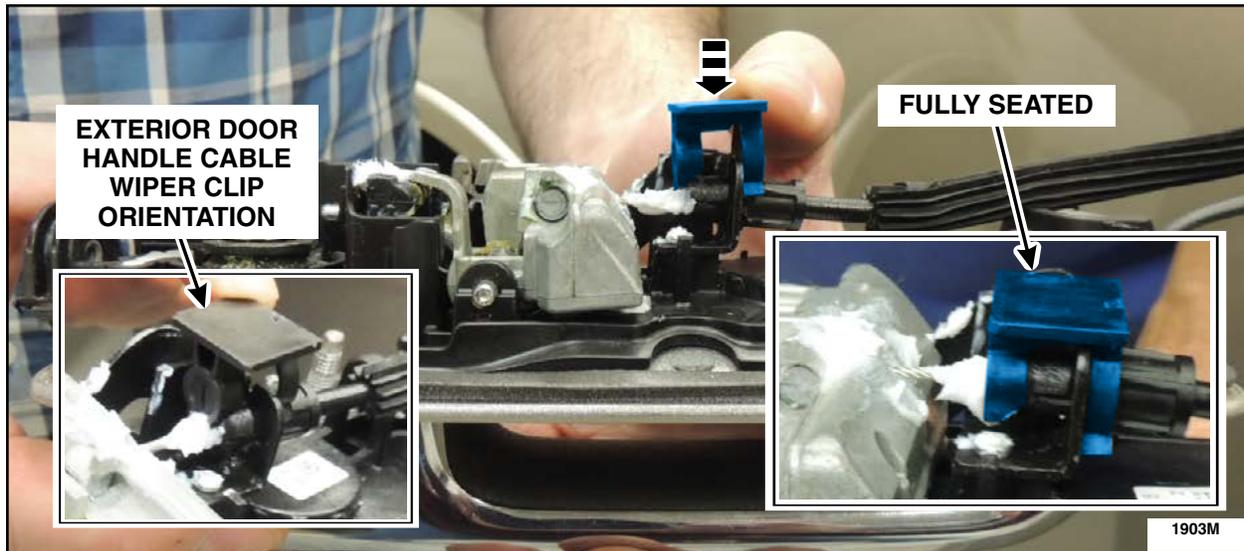

FIGURE 53
22. Install a new handle cable wiper clip on the exterior door handle cable end. See Figure 53.